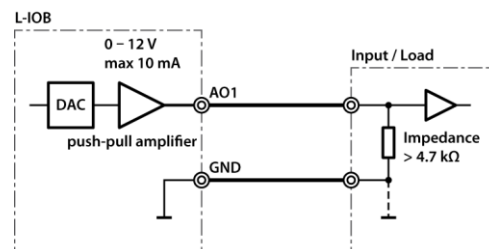

Figure 117: Analog outputs
Figure 117 shows the wiring of the analog outputs (AO). Observe that the analog outputs are labeled '0-10V OUT' but are in fact capable of delivering over 11V.